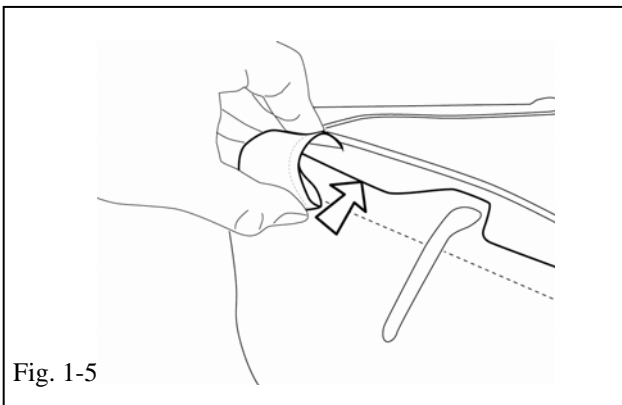

Fig. 1-5
- || (f) Insert (6) tabs in between the carpet panel and the seat back to secure the Cargo Liner to the backrest of the rear seats. (Fig 1-5)